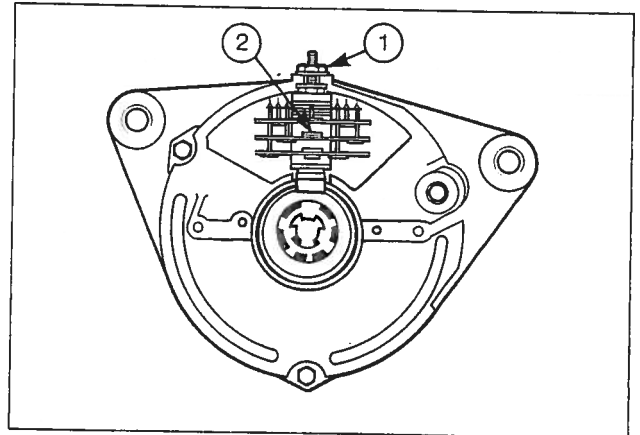

Fig. 39 Removing the rectifier
6. Clamp the alternator securely. Unsolder the stator leads from the rectifier. Slacken the securing nut (1) and remove the rectifier pack (2) – see Fig. 39.